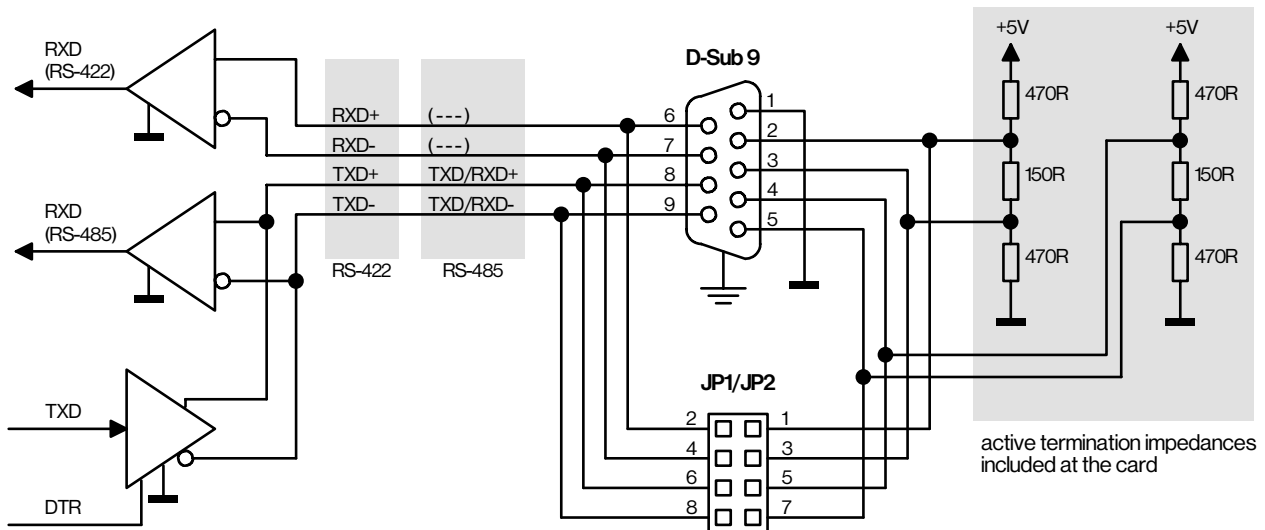

Figure 4. Internal circuit schematics of the RS-422/485 interface using the D-Sub 9 connector.
- JP1, JP2 Termination impedances activation jumper (see Figure 4.)
Note: The circuit schematics including the termination resistors topology is shown in Figure 4.
Note: The line utilizes one shielded pair (see Chapter 3.7.). The termination resistors are shown as passive here, but at least one of them should have active topology (see Figure 4.).